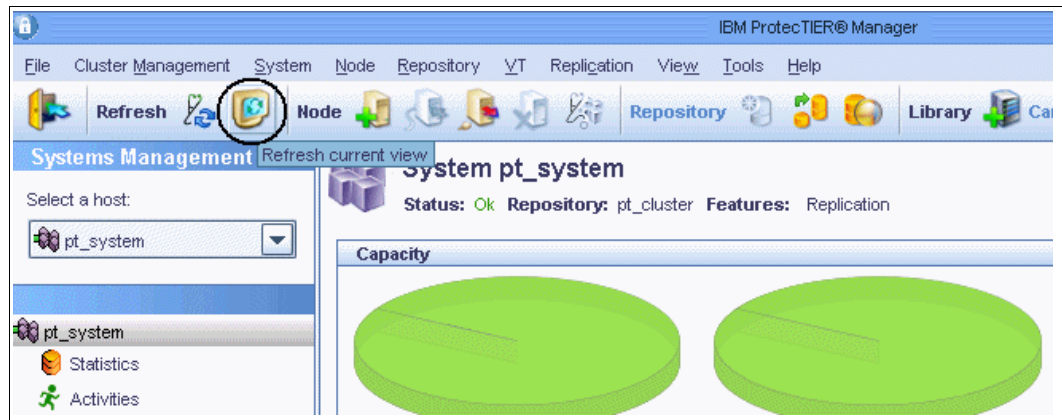

Figure 5-30 Refresh current view
2. Click **Refresh current view** to refresh the View pane (Figure 5-30).